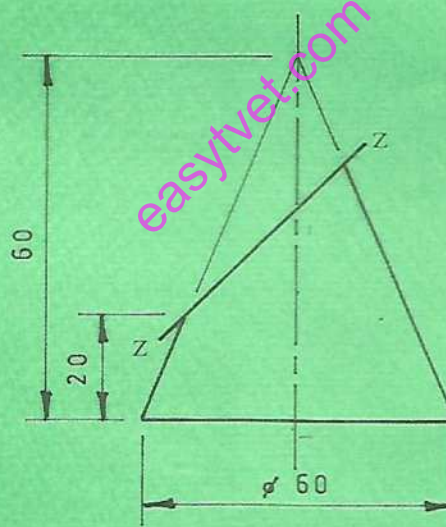

Fig. 4
4. Figure 4 shows a cone of base diameter 60 mm and a vertical height of 60 mm cut by a plane Z-Z.